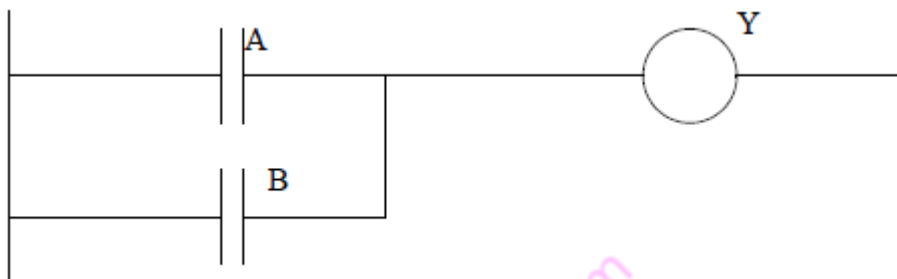

Figure 1
3. Write the equivalent Instruction List program for the Ladder Logic in Figure 1 below. (4 marks)